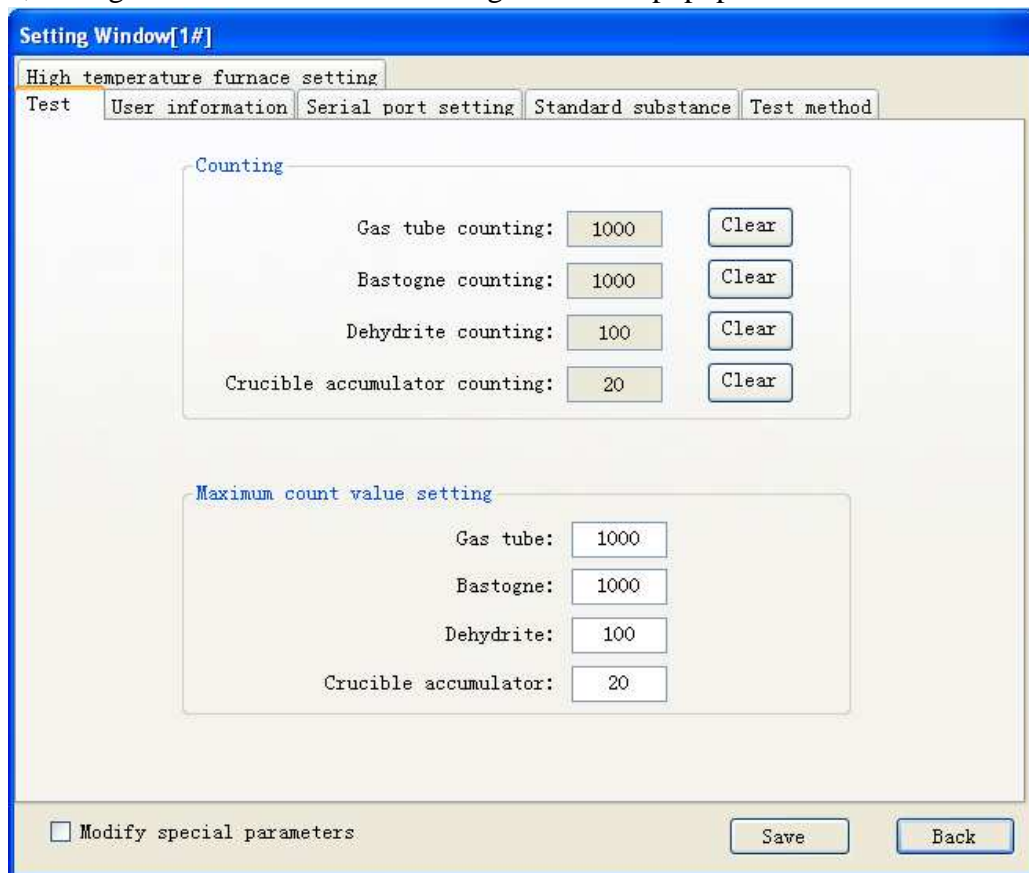

Fig. 4-3-2
**1. System setting:** select this item or click “System Setting” icon in shortcut icon bar, setting windows as shown in the Fig. 4-3-2 will popup.